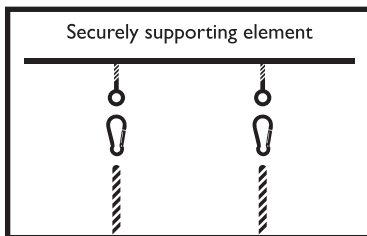

Fig. 1
8. Installation method: installation of the product on the horizontal bar happens by linking the metal ring with the connective strap and spring hook. See fig.1.